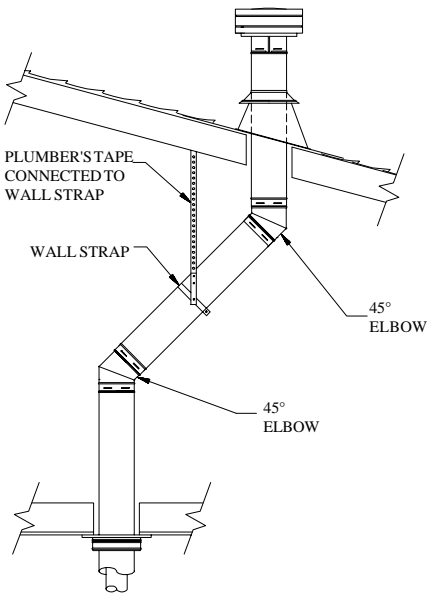

Fig 15
(1) If an offset is necessary in the attic to avoid obstructions, it is important to support the vent pipe every 3 feet, to avoid excessive stress on the Elbows, and possible separation. Wall Straps are available for this purpose. (Fig 15)
(2) Whenever possible, use 45° Elbows, instead of 90° Elbows. The 45° Elbow offers less restriction to the flow of flue gases and intake air.